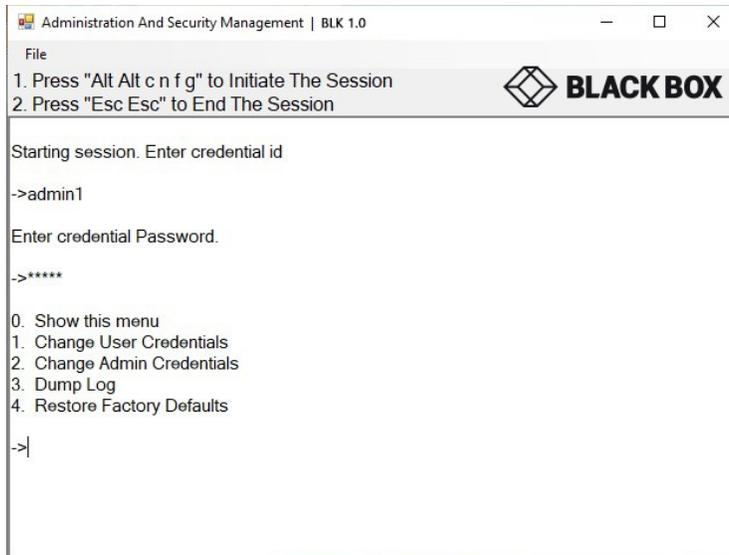

Figure 7: Restore Factory Defaults
- The following menu will be presented (see Figure 7):